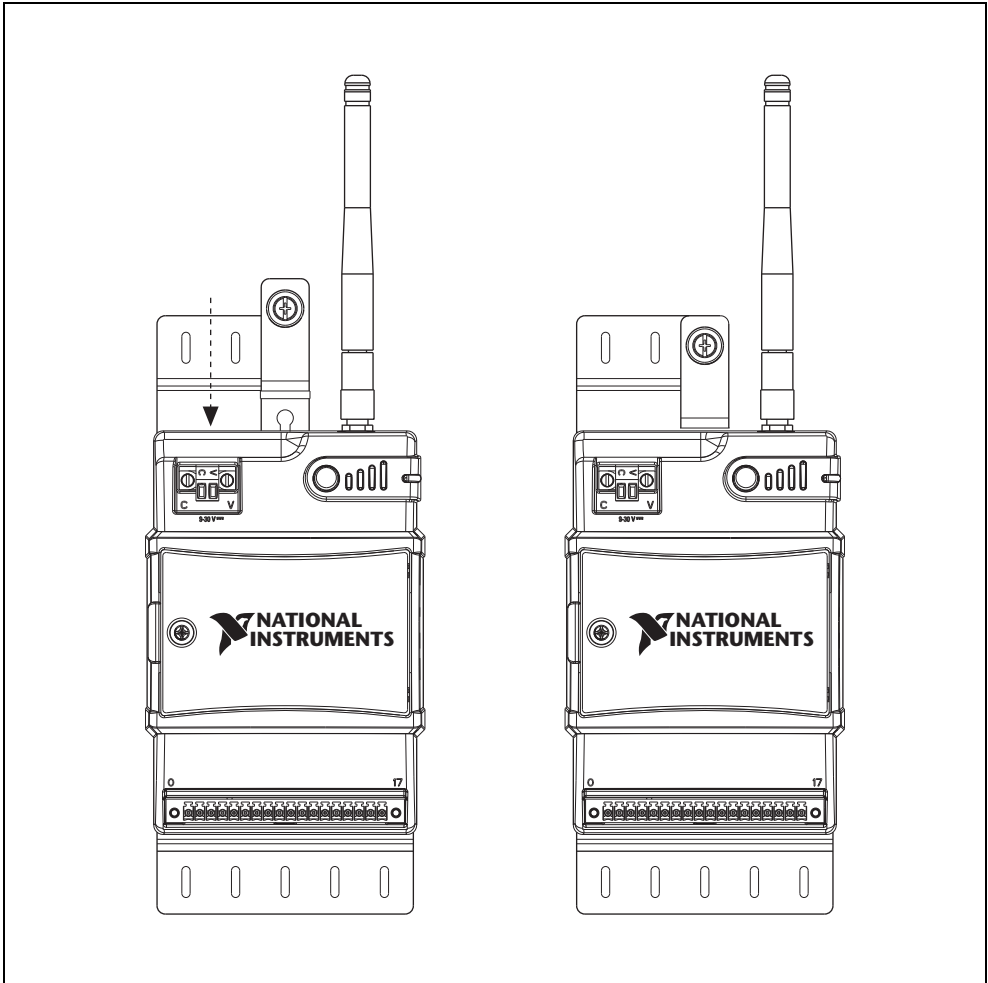

Figure 9. Slide Retention Clip Down and Tighten Panel Mount Knob
3. Slide the retention clip down and tighten the panel mount knob to secure the NI WSN-3202 device as shown in Figure 9.